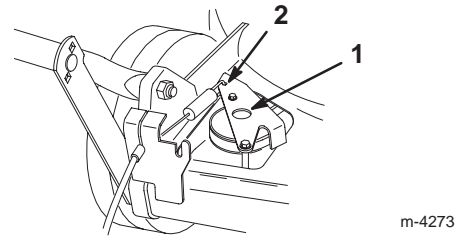

Figure 28
4. Push the drive bracket down until it contacts the lawn mower, then hold it in place (Fig. 28).